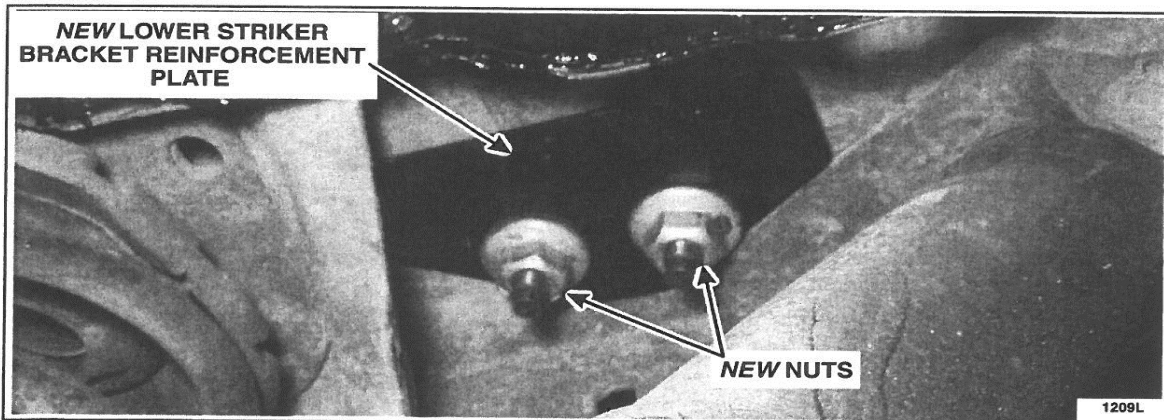

FIGURE 19
37. Position the *new* RH and LH lower striker bracket reinforcement plates and install two *new* nuts. See Figure 19.